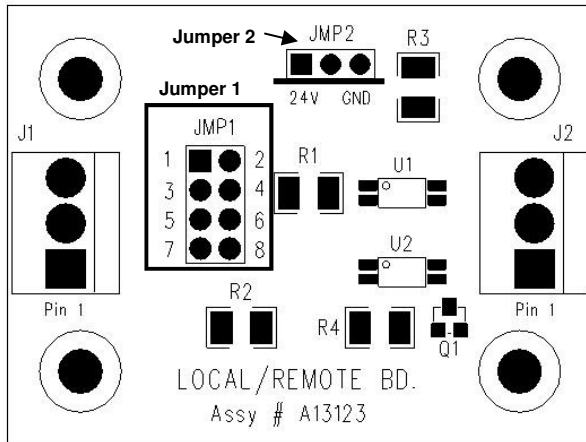

Figure 15: Local/Remote Board Jumper Headers
- The local/remote board (Assy# A13123), jumpers must be adjusted into one of the two REMOTE settings, based on the desired input type, to allow for REMOTE mode operation. The location of the jumpers on the board is displayed in Figure 15. Use the REMOTE mode jumper settings table for the jumper settings based upon your specific input.